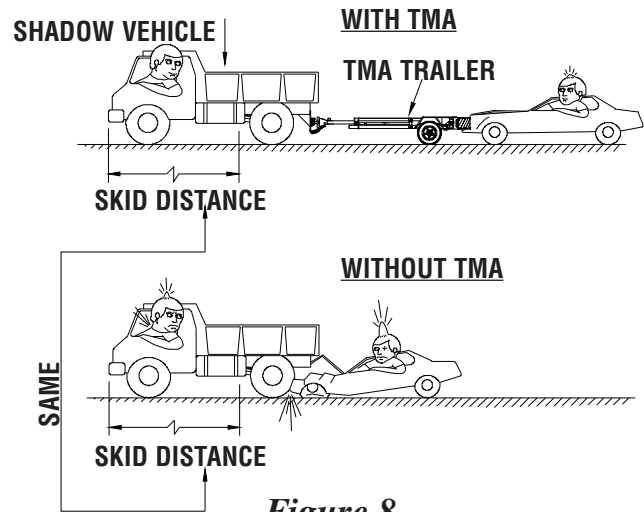

Figure 8
- Affect the skid (roll ahead) distance of an impacted truck (see Figure 8). **KEEP WORK CREWS CLEAR!**